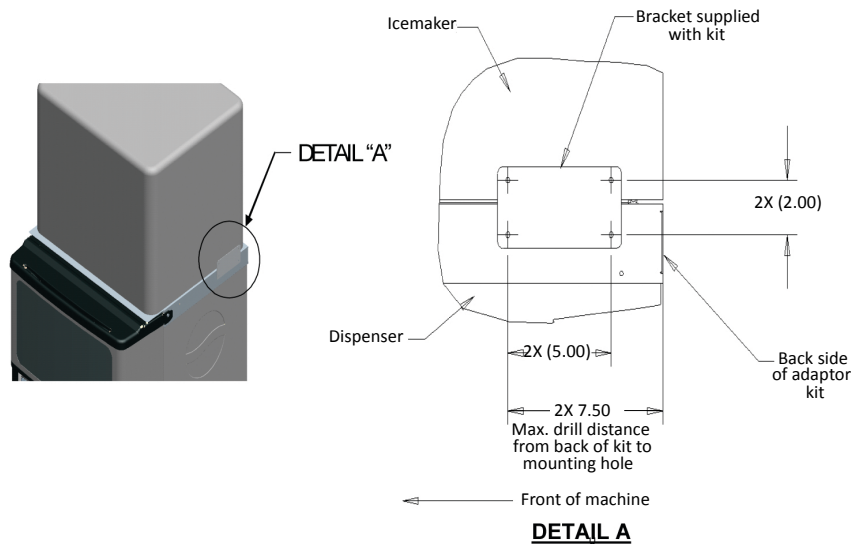

Figure 3.
7. The next step is to secure the icemaker to the kit. Use the brackets (supplied) as templates to drill four 9/64" (.140" Dia.) holes into the adaptor kit (2 per side). When drilling holes, the maximum distance from the back of the kit should be 7.50 inches (refer to Figure 3.) Failure to comply will result in damage to the sliding arm mechanisms internal to the kit. Drill four holes of the same diameter into the icemaker (2 per side). Ensure the location of the brackets will not damage the kit or the icemaker prior to drilling any holes. **USE EXTREME CAUTION NOT TO DRILL INTO ANY OTHER COMPONENTS.** Drill depths should not go further than the thickness of the material being drilled (just enough to go through). Secure the two brackets using the screws provided.